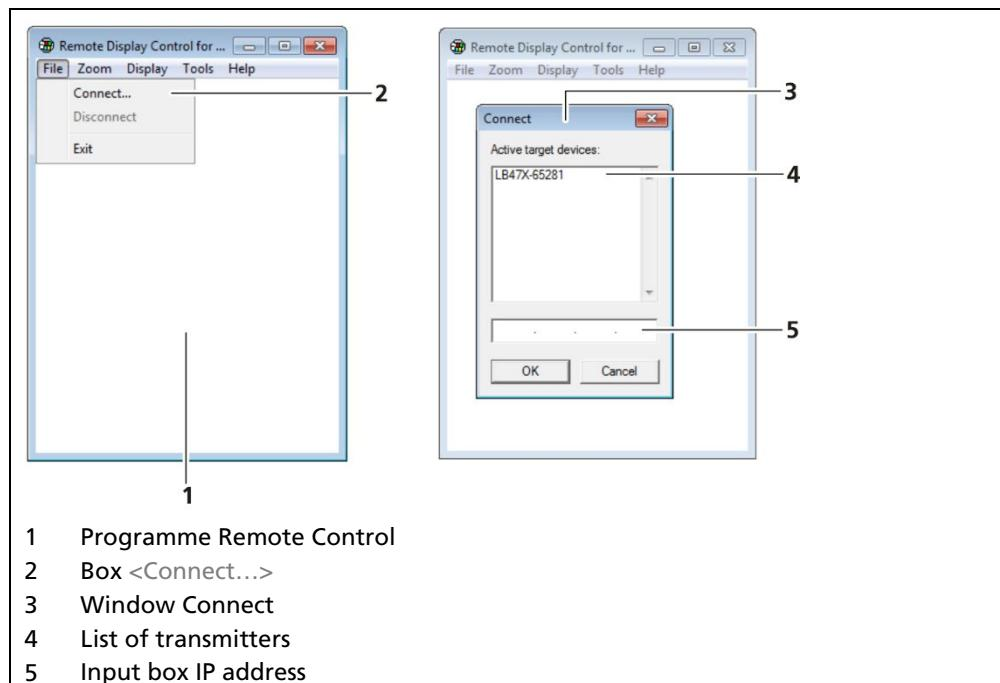

Fig. 49 Establishing connection to the EVU using the RC software
► The program starts (Fig. 49, item 1).
2. Click on the < File > tab and then on < Connect... > (Fig. 49, item 2), to establish a connection to the EVU.
► A new window "Connect" is opened (Fig. 49, item 3) and the connected transmitters are listed.
3. Click on the identifier of the transmitter (Fig. 49, item 4) or enter the IP address of the EVU in the input box (Fig. 49, item 5) (see Fig. 49, item 2).